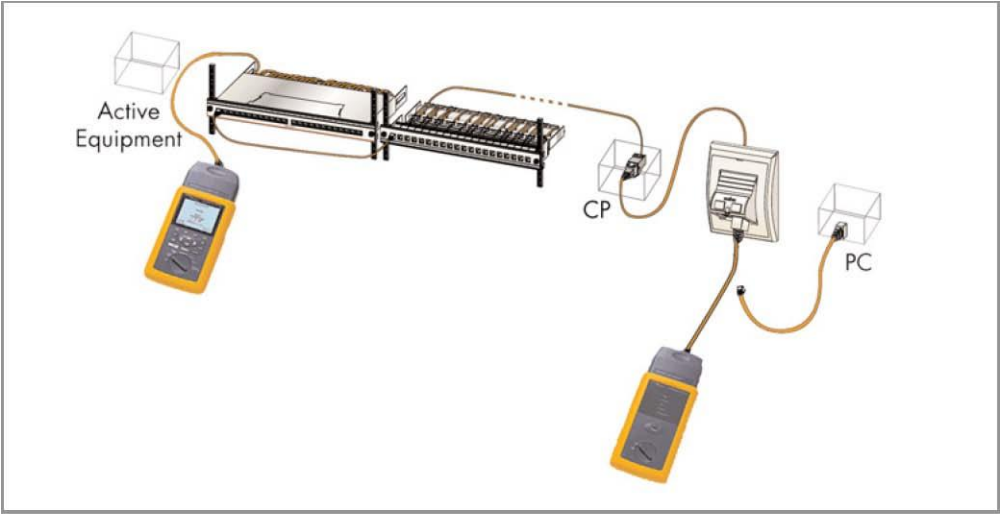

Figure 2.4: Testing at 4 connector Cross connect – CP –TO model
If LANmark-7 patch cords are used to cross connect the patch panels, testing as a 4-connector test model is mandatory to acquire a Nexans Certified Systems Warranty on the complete installation (= 4 connector installation). The installation includes a Consolidation point lead and an Equipment cord consisting of a LANmark-7A patch cord which must be terminated using a Nexans N420.731 GG45 connector connecting the Consolidation Point (CP) to the Telecommunication Outlet (TO) and the Cross Connect panel representing the ports on the equipment. Testing in a 4 connector test model as shown in Figure 2.4 is mandatory to acquire a Class F Certified Systems Warranty on the complete installation (= 4 connector installation) under the condition that the correct test heads and test limits are used.